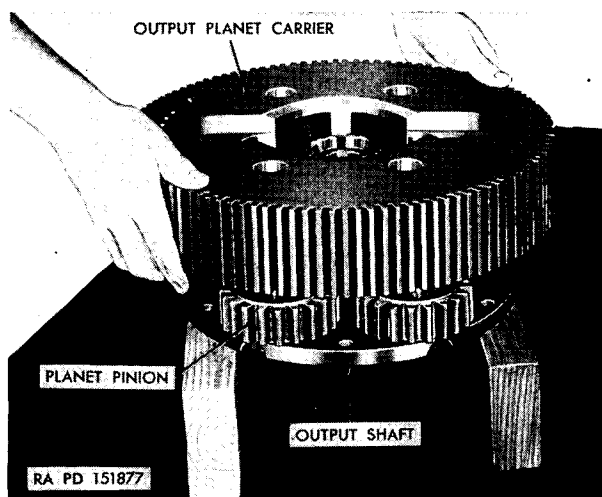
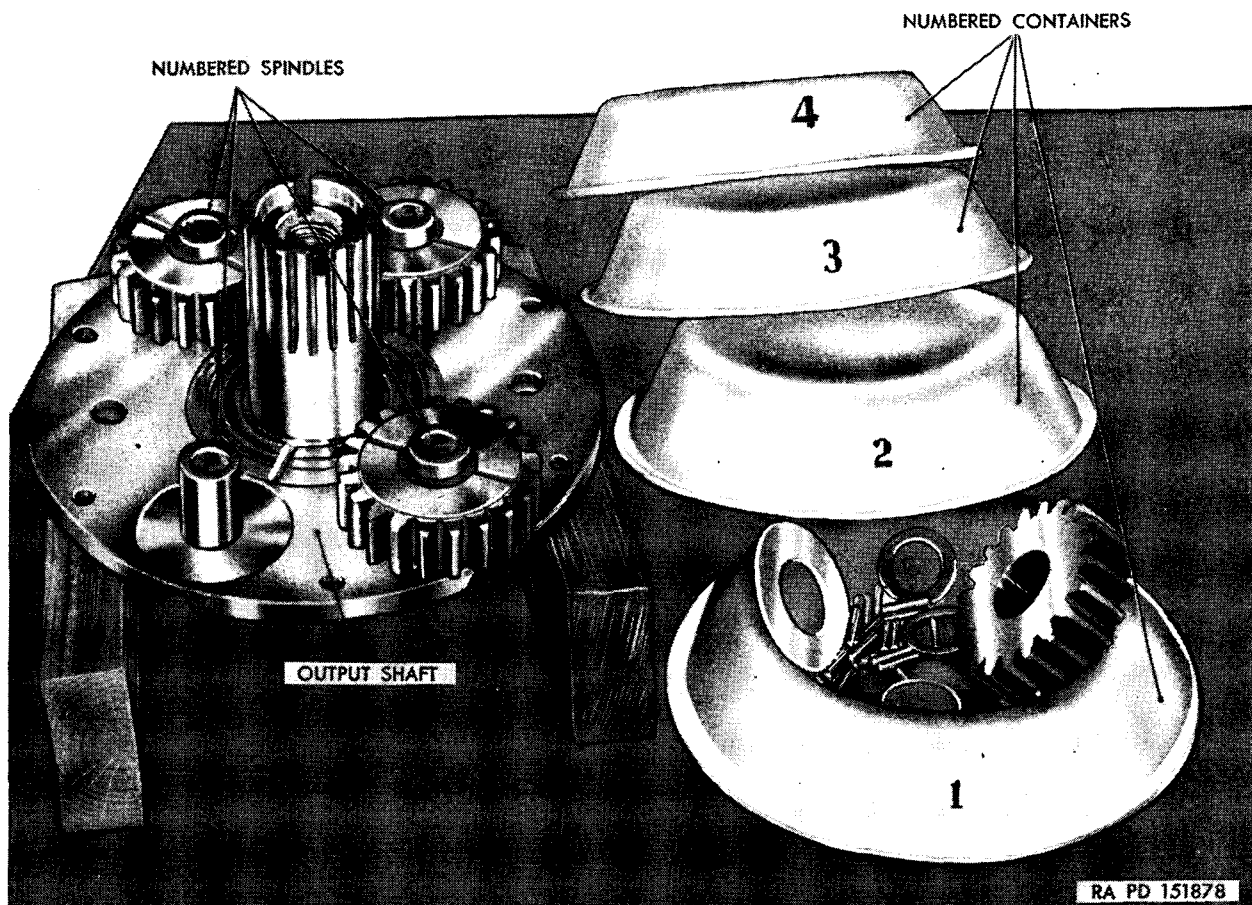

Figure 138. Removing output planet carrier.
Figure 139. Planet pinion assembly in proper container.
- (4) Remove the output planet carrier from the output shaft (fig. 138).
- (5) Number the spindles and four containers so as to retain the pinion assemblies with their respective spindles.
- (6) Remove the planet pinions, spacers, thrust washers, and rollers from the spindles and place each assembly in the proper numbered container (fig. 139). Remove the large thrust washer from the output shaft.
- (1) Place the output shaft on wooden blocks with the shaft up and install the large thrust washer.
- (2) Taking parts from the No. 1 container (fig. 139), install the spacer and thrust washer on the No. 1 spindle.
- (3) Then install the planet pinion, 22 rollers, spacer, and thrust washer on the spindle. Assemble the other three sets of planet pinion assemblies using the same procedure.